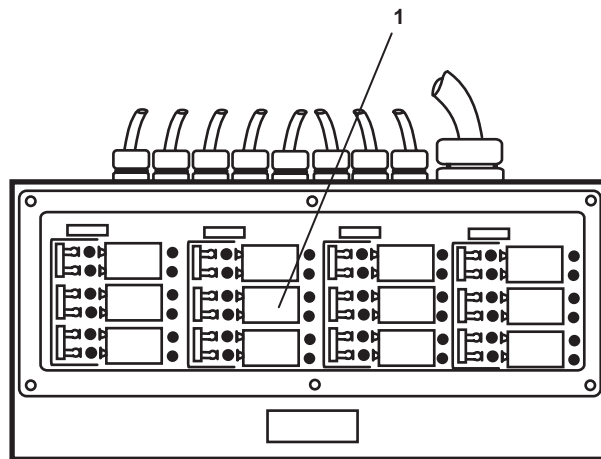

Figure 4. Machinery DC Control Distribution Panel
1. At the machinery DC control distribution panel, set the PMP DR ENG circuit breaker (figure 4, item 1) to ON.